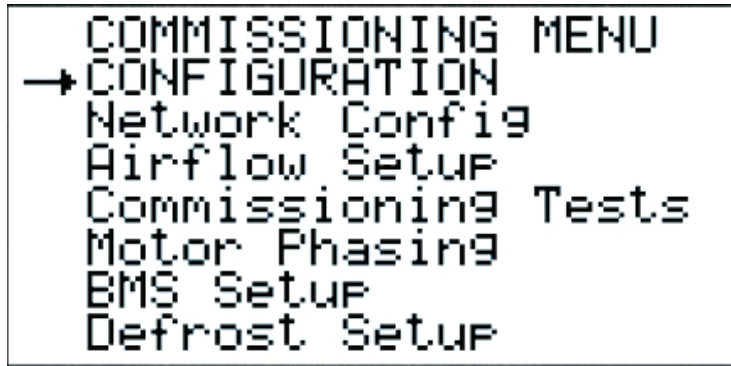

Figure 21
2.3.4.1 Commissioning (Figure 21)
Selecting COMMISSIONING from the Service Menu displays the COMMISSIONING MENU (Figure 21). This menu allows the operator to select the Configuration, Network Config, Airflow Setup, Current Conditions, Commissioning Tests, Motor Phasing and BMS Setup.
Selecting the CONFIGURATION from the Commissioning Menu displays the BLOWER SETUP screen (Figure 21). The blower can be set for either CONTINUOUS or AUTOMATIC. Only set the blower to automatic if a wall mount sensor is used. Press the **DOWN** key for the next Configuration screen.